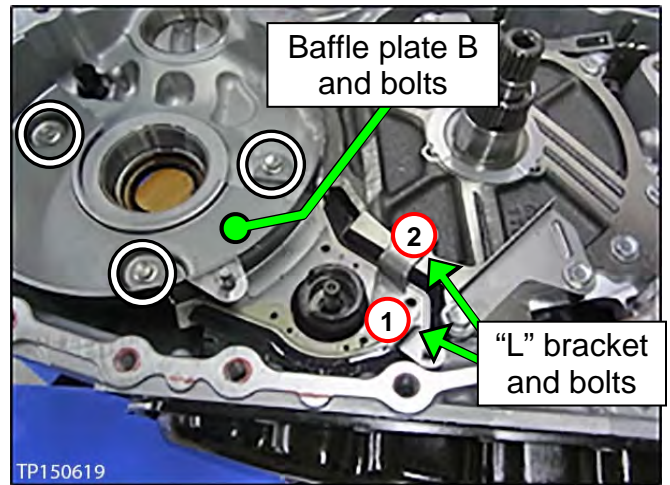

Figure 6I
6. Install baffle plate B and “L” bracket with the related bolts finger tight (Figure 6I).